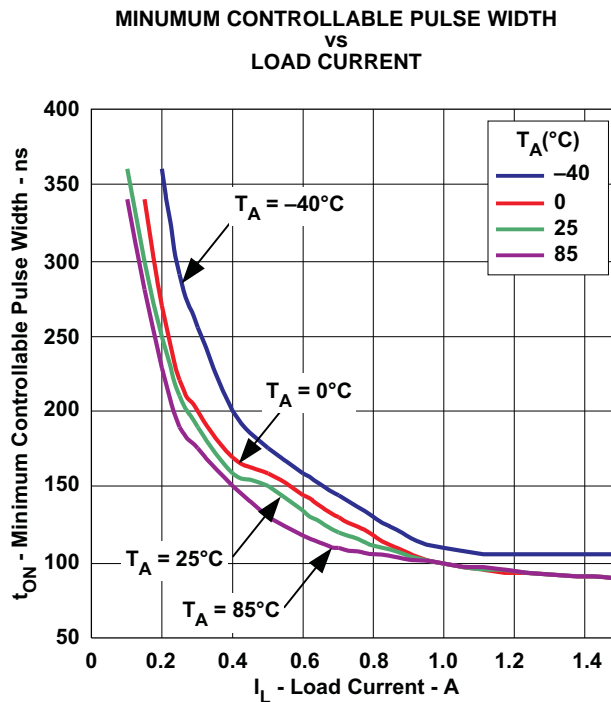

Figure 14.
(3) Ensured by design. Not production tested.
(4) See Figure 14 for I_{SWx} peak current <1 A.